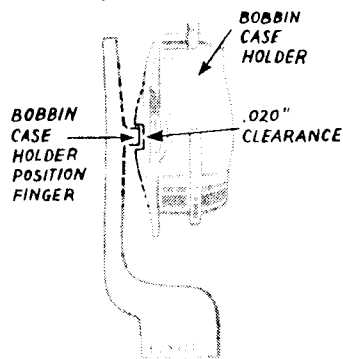

Fig. 32. Showing Thread Clearance Between Bobbin Case Holder Position Finger and Bobbin Case Holder
5. Check position of bobbin case holder position finger **Fig. 32**. The clearance between position finger and bobbin case holder should be just sufficient to allow thickness of thread to pass through easily. Normal setting is for approximately .020 inch clearance, as shown in **Fig. 32**. The finger should also be level with top of bobbin case holder.